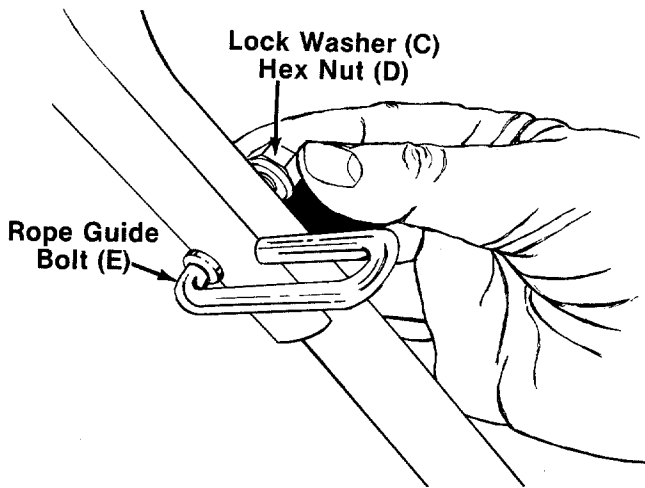

FIGURE 4.
- Insert the rope guide bolt (A) through the right hand side of upper and lower handle. Secure finger tight only with lock washer (C) and hex nut (D). See figure 4.